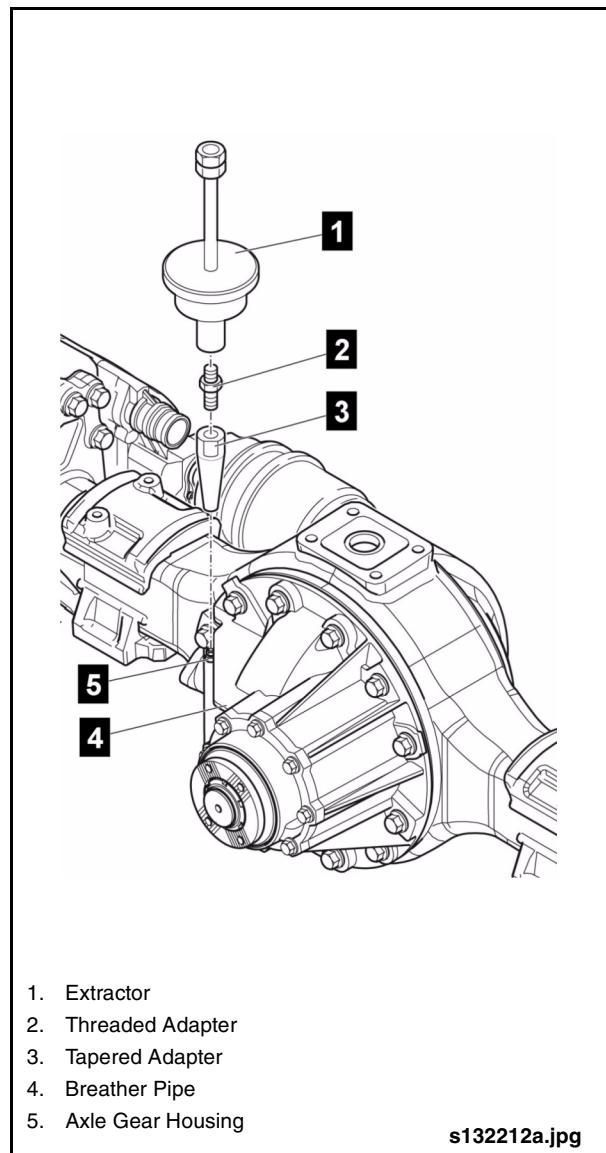

Fig. 2-41: Removing Axle Breather Connection
2. Assemble the Extractor (Item 42 from Special Tools List) with the Threaded Adapter (Item 41 from Special Tools List) and the Tapered Adapter (Item 40 from Special Tools List). See “Fig. 2-41: Removing Axle Breather Connection” on page 38.